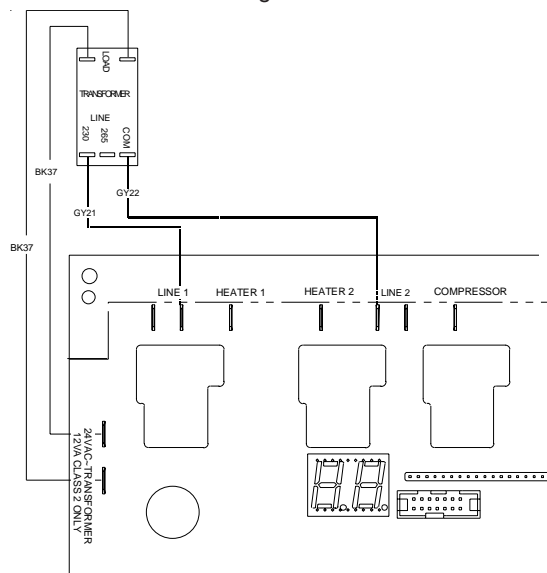

Figure 4
- Using the insulated terminals connect the two (2) Black 37 wires from the Load terminals on the transformer to the "24VAC Transformer" terminals on the control board. See Figure 4.